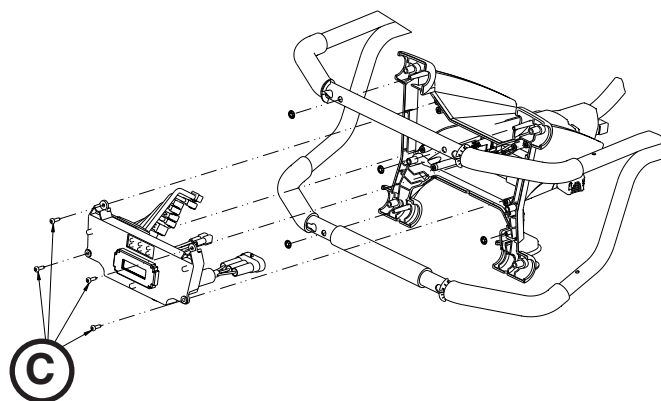

Figure 63
5. Using a T20 Torx driver, remove the four delta screws (C) that secure the electronics assembly to the foot end enclosure and pull the electronics assembly out (Figure 63). Save all parts for reinstallation.